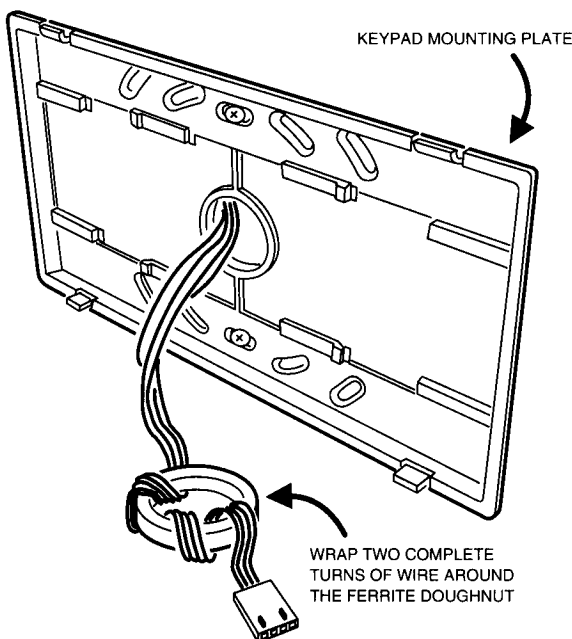

Figure 18. Properly Installed Ferrite Doughnut
- ✓ When installing a KD-90 LCD keypad, be sure to install the ferrite "doughnut" (Linear P/N 200489-003) onto the keypad wires behind the keypad (see Figure 18).